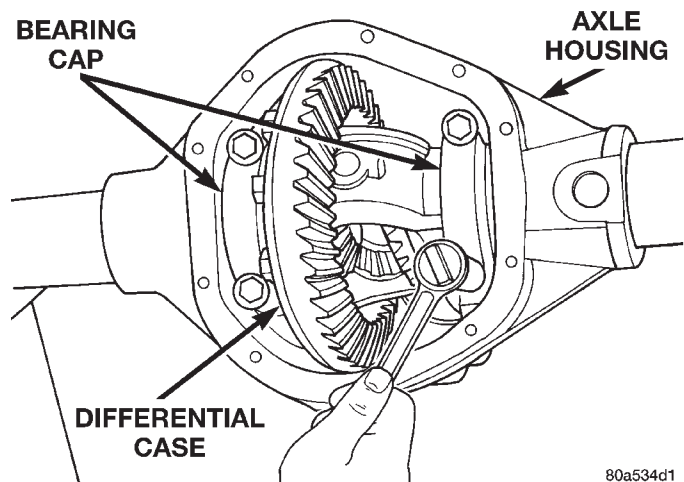

Fig. 72 Tighten Bolts Holding Bearing Caps
- (1) Remove differential side bearings from differential case.
- (2) Remove factory installed shims from differential case.
- (3) Install ring gear on differential case and tighten bolts to specification, if necessary.
- (4) Install dummy side bearings D-345 for 216 FBI axles, or D-343 for 248 FBI axles, on differential case.
- (5) Install differential case in axle housing.
- (6) Install the marked bearing caps in their correct positions. Install and snug the bolts (Fig. 72).